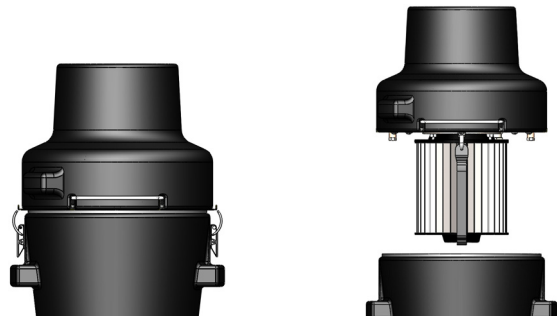

FIG. 1
- 1 Unlatch and remove the motor assembly from the cone assembly [FIG. 1].